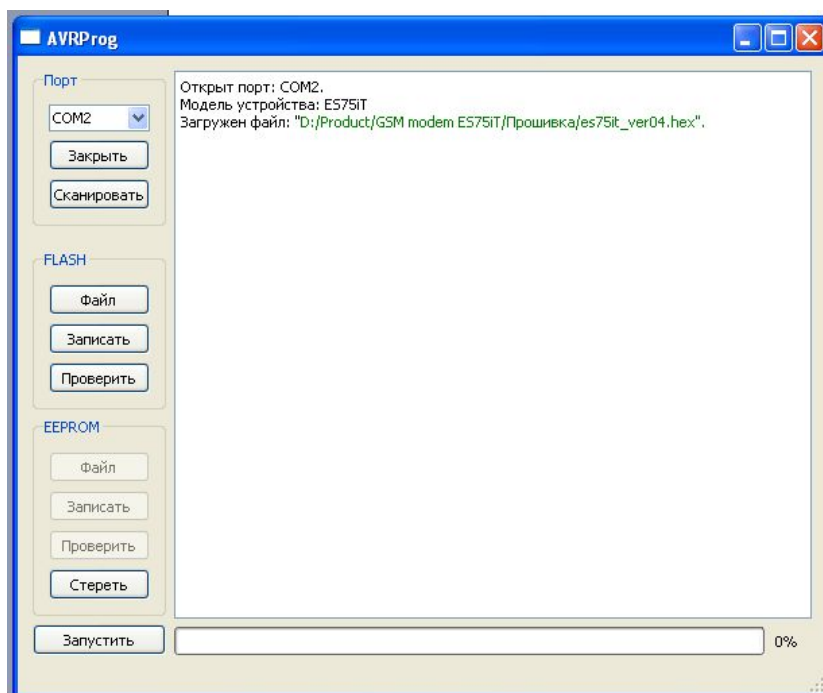

Fig.5
5. Select the new weaving file. Click “Open”. If the file is loaded successfully, the screen similar to Fig.5 will be displayed in the window.